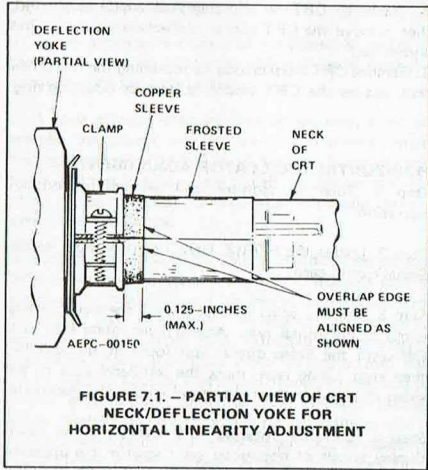

FIGURE 7.1. — PARTIAL VIEW OF CRT NECK/DEFLECTION YOKE FOR HORIZONTAL LINEARITY ADJUSTMENT
Step 2. (Refer to Figure 7.1.) Loosen the deflection yoke clamp screw just enough to permit sliding the copper sleeve on the CRT neck back and forth.
Step 3. (Refer to Figure 7.1.) Position the copper sleeve so that only 1/8" (.125") extends out past the rear lip of the deflection yoke. In addition, be sure that the overlap edge of the copper sleeve is aligned properly and not twisted.